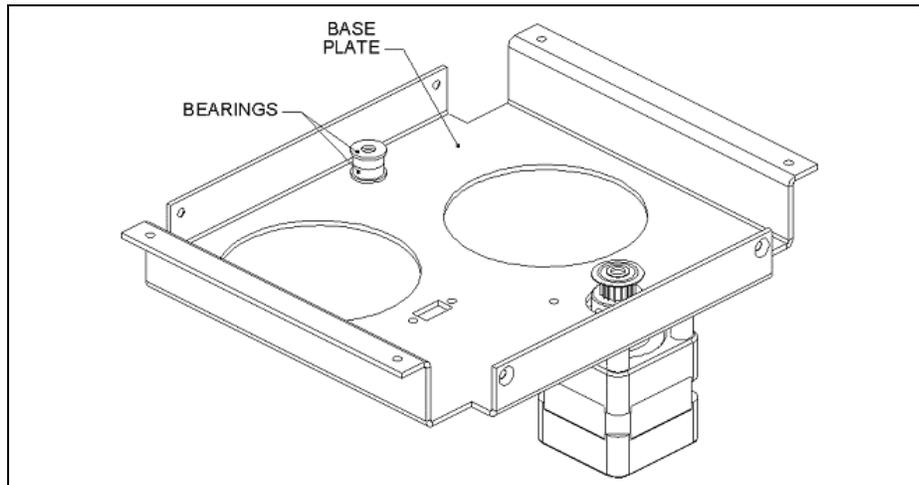

Figure 13-26 Bearing and Motor
- 2 Loop belt around motor pulley and idler wheel (Figure 13-26).